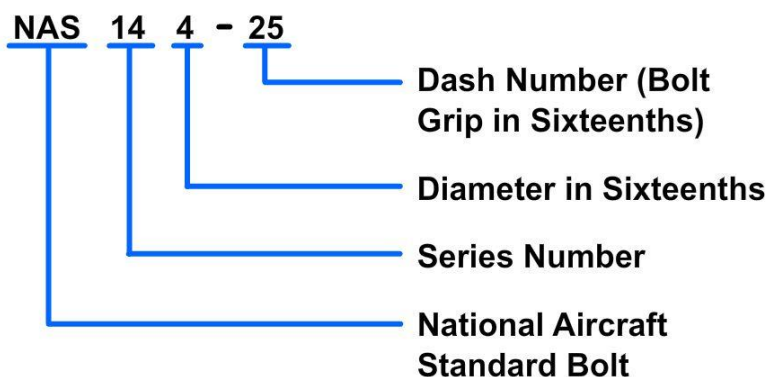

Figure 6-16 — NAS bolt part number breakdown.
NAS Part Number — Another series of bolts used in aircraft construction is the NAS. See *Figure 6-16*. In considering the NAS144-25 bolt (special internal-wrenching type), the bolt identification code starts with the letters *NAS*. Next, the series has a three-digit number, 144. The first two digits (14) show the class of the bolt. The next number (4) indicates the bolt diameter in sixteenths of an inch. The dash number (25) indicates bolt grip in sixteenths of an inch.